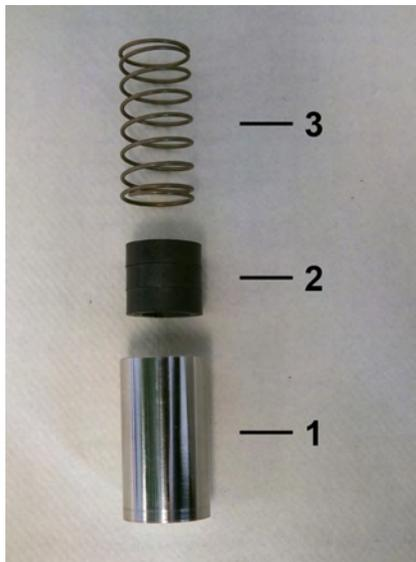

Fig. 48: Spring, magnets and float
- 12. ► The inner parts of the flow monitor consist of the spring (Fig. 48/3), magnets (Fig. 48/2) and float (Fig. 48/1).